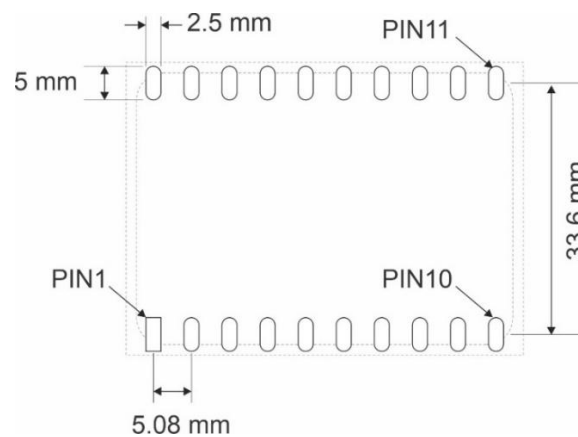

Figure 21: Recommended solder pad layout (top view).
VT-DRM(S) can be soldered directly on the customer PCB (as SMD), the recommended dimensions for solder pad layout are given in Figure 21.